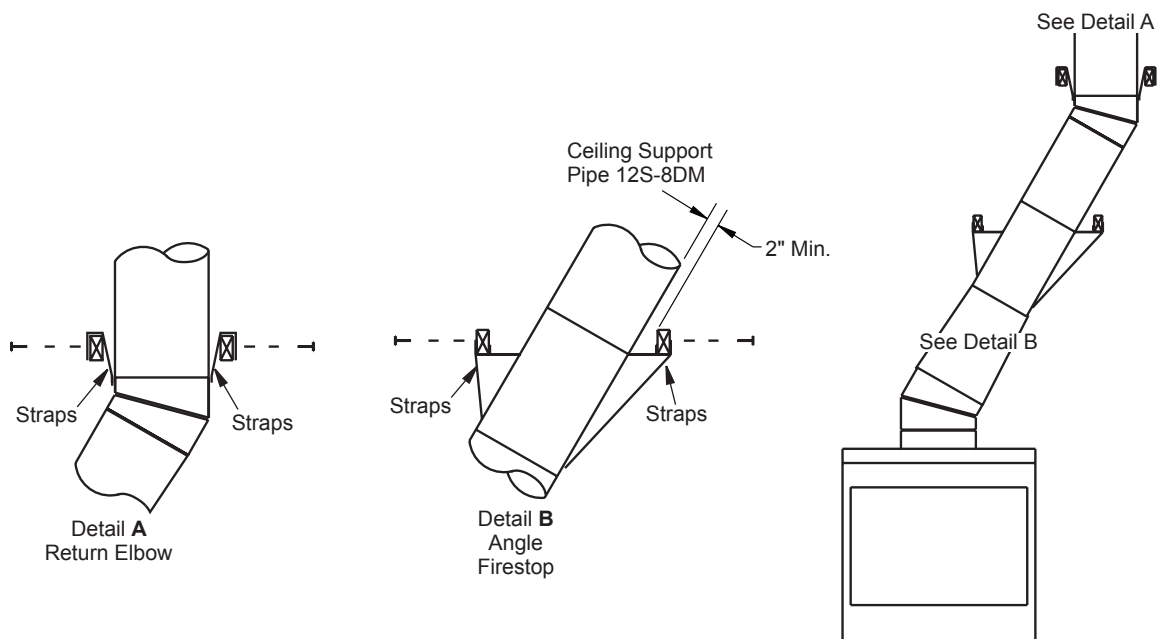

Figure 11 - Ceiling Support Pipe 12S-8DM
- Chimney weight above offset rests on return elbow. Straps must be securely nailed to rafters or joists (see Figure 11, details A and B, page 9).